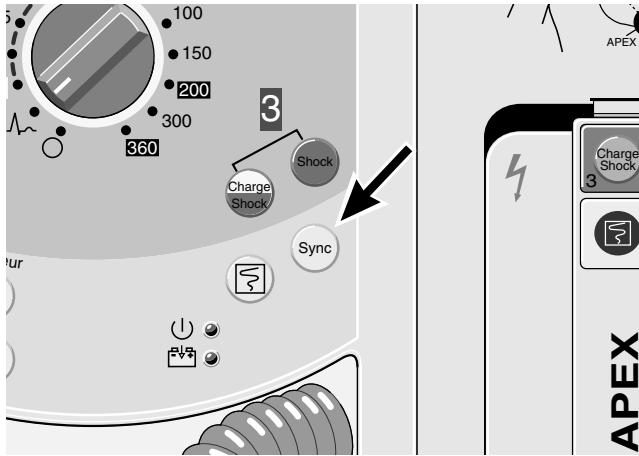

Figure 5-3. Key to select synchronized defibrillation
- * Press **Sync** (Figure 5-3).